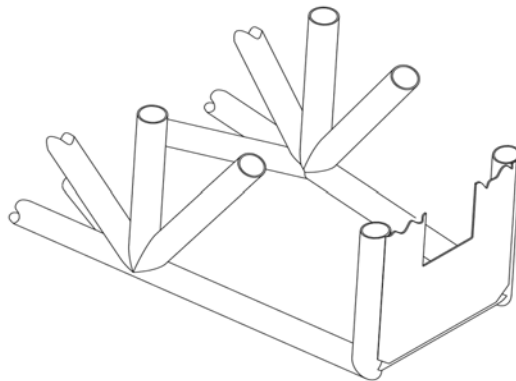

Figure 3: Cutout for crack repair and retrofit
- Cut out tail spring mounting plate including front and rear stiffener (figure 3 shows detail of rear truss after cutting). Proceed with caution. Avoid damaging any truss tubes (except those tubes that are replaced).